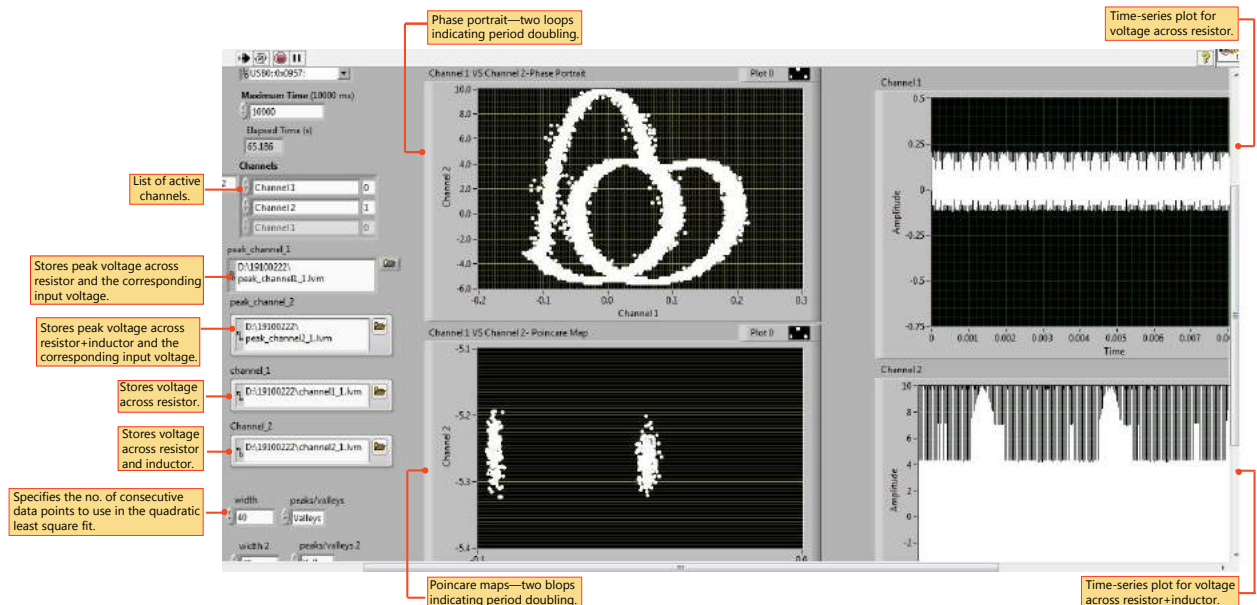

Figure 9: RLD_DAQ.vi's interface on the computer.
3. Open the **RLD_DAQ.vi** file on your desktop whose interface would look similar to Figure 9.
RLD_DAQ.vi	It generates a amplitude-modulation ramp that is fed into the circuit. Once the signal starts appearing clearly on the oscilloscope, which takes around 40 seconds, the LabVIEW file starts recording two sets of data: one across the resistor (V_R) and the other across the resistor + inductor (V_{R+L}) and stores them in separate files. Using this data and a peak detection algorithm, it then creates time-series plots, phase portraits and Poincare maps. Figure 9 shows its front panel.